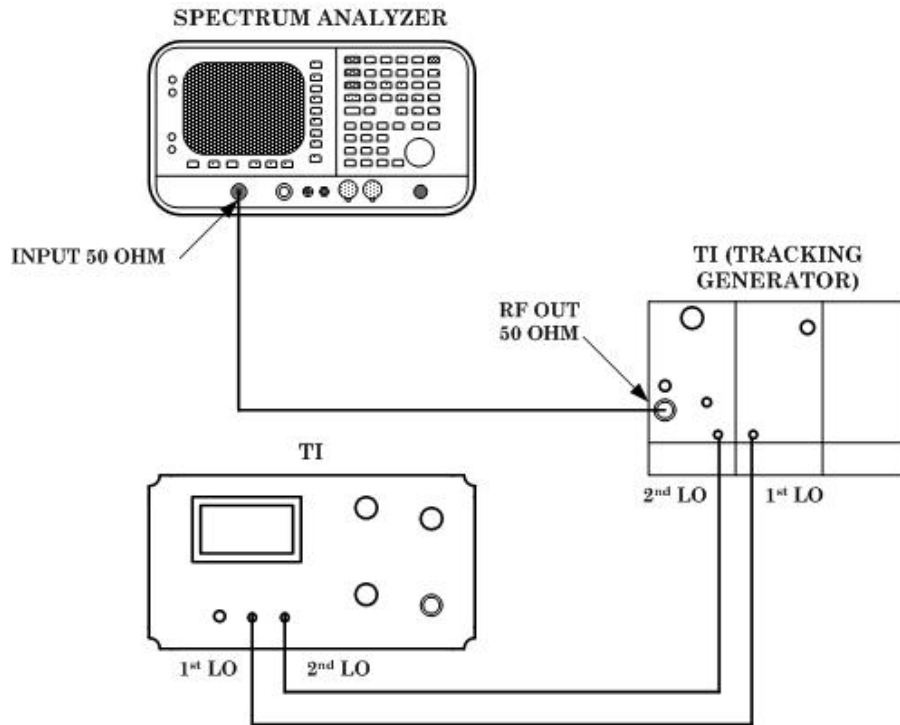

Figure 12. Spurious signals setup.
(1) Connect equipment as shown in figure 12 below.